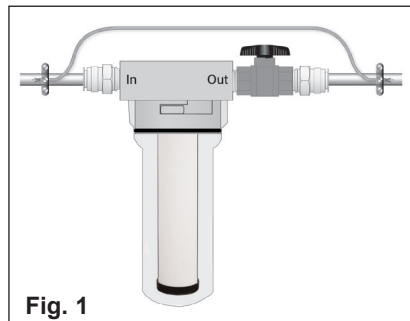
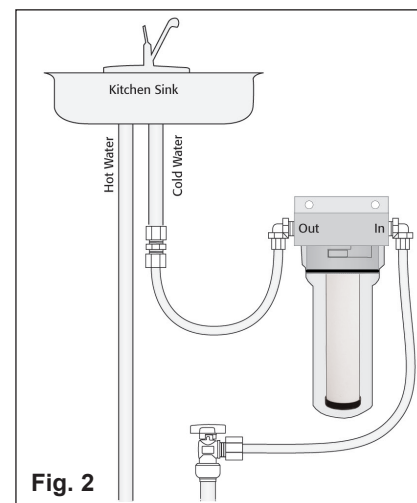

Fig. 1
Fig. 2
It may be installed in-line as shown in Fig. 1 or undersink as shown in Fig. 2.
For solderless installation use Rainfresh CK1P connector kit for inline installation (Fig. 1) or CK3 connector kit for undersink installation (Fig. 2). (sold separately)
2. Install filter using Rainfresh Connector Kits CK1P for inline (Fig. 1) or CK3 Kit for undersink (Fig. 2) or standard pipe fittings in desired location making sure water enters inlet side of filter as marked on filter head (501).
3. Remove sump (520) by turning 1/8th turn counterclockwise and lower. Remove protective bubblepack around 1M Cartridge. The filter unit comes with a cartridge adaptor (2560P) that is threaded onto the cartridge and allows a simple press up fit of the cartridge over the center boss of the filter head. To replace sump, align the sump grooves with filter head lugs and push straight up onto the head. Turn the sump 1/8 turn to right to lock.